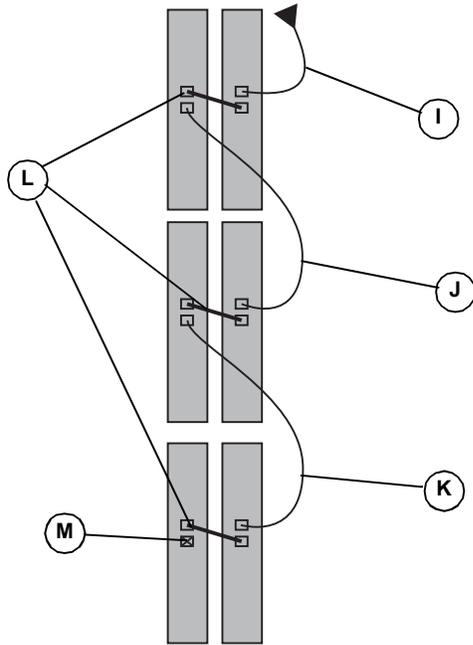

Figure 4-26. Module COM Cabling (2 of 2)
7. See Figure 4-26. Continue connecting the remaining battery modules. While installing CAT5 cables:
- Connect battery modules sharing a shelf with a black jumper cable (I) going from the rear battery COM OUT port to the front battery COM IN port.
- Do not install a CAT5 cable to the last battery module's COM OUT port (M).